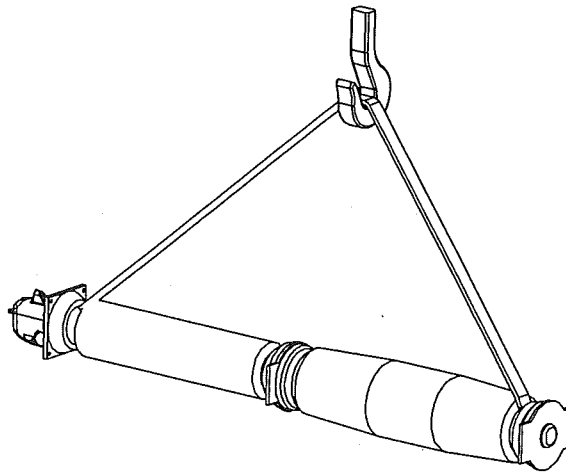

Figure A 4.4.1: Hoisting the pole column horizontally
- Lift off the pole columns one by one using two rope loops (Figure A 4.4.1) and set each of them down on two square timbers. Secure the pole columns so that they will not roll off.